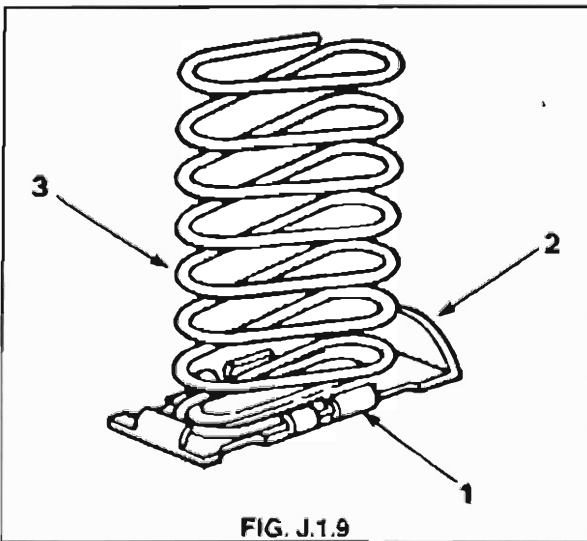

FIG. J.1.9
- Using a screwdriver or similar implement bend back the lugs on the platform and remove the spring. See Fig. J.1.9.